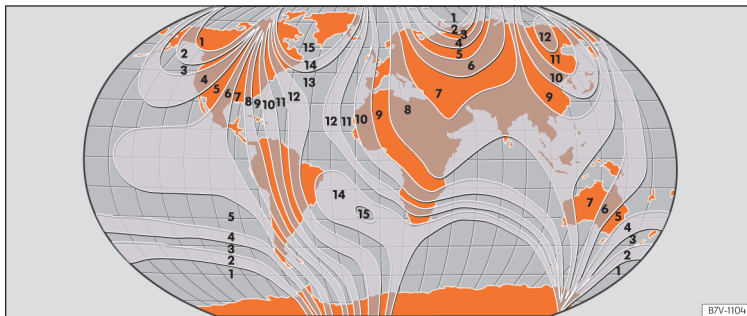

Fig. 80 Magnetic zones
- Select the magnetic zone corresponding to the position of the vehicle » **Fig. 80**.